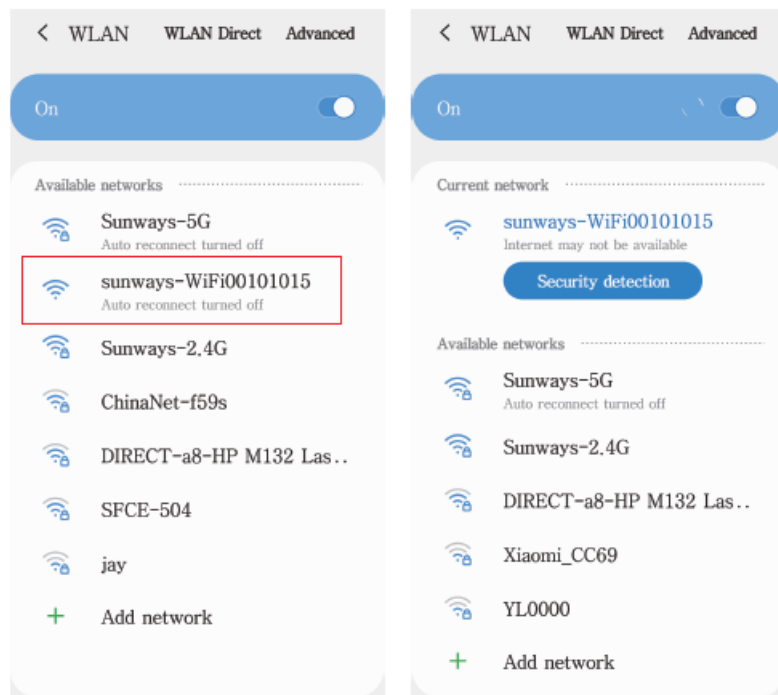

Figure 17
- WiFi connection succeeded as shown in Figure 17.